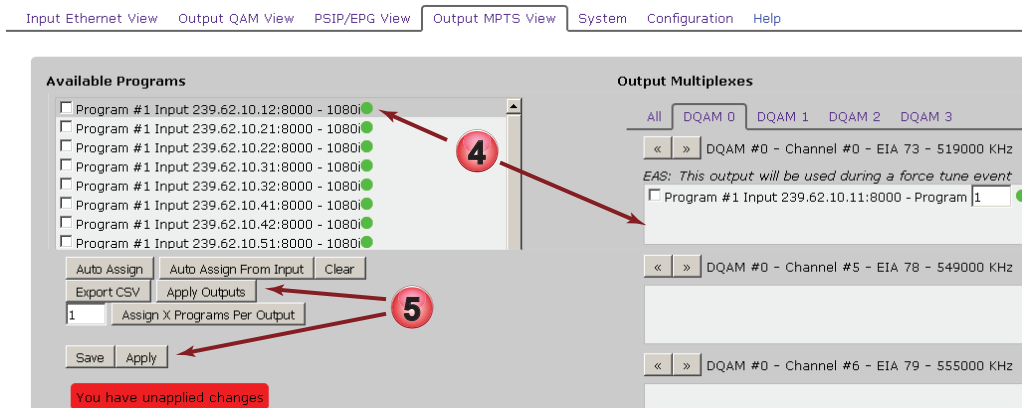

Figure 5-9: Programs Removed From MUX
4. The programs are moved back to the **Available Programs** list, Figure 5-9.